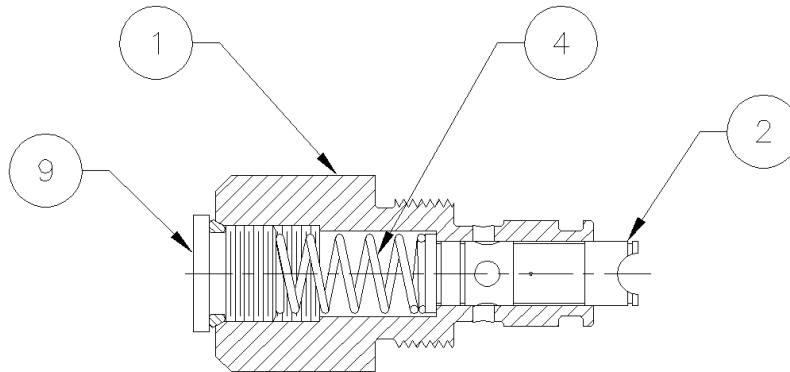

figure S-2
2. Place the plunger (2) (figure S-2) into the plunger housing (1). Place the spring (4) on top of the plunger (2). Coat the o-ring on the o-ring plug (9) with STP Oil Treatment. Screw the o-ring plug (9) into the plunger housing (1) on top of the spring (4) and tighten to 30 in-lb. torque.